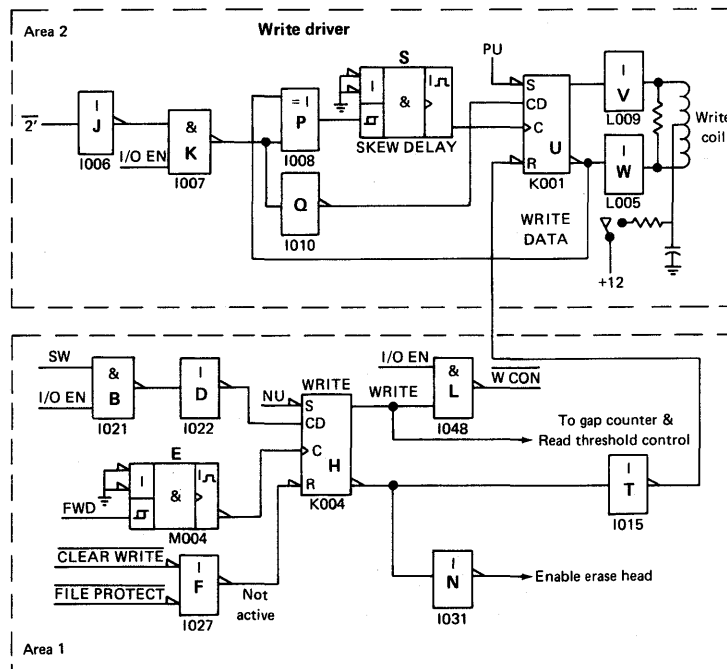

Figure 10. Simplified write logic
1. The tape reel must have the 'write' ring installed. This removes the reset condition from the WRITE FF (see block F of figure 10).
2. The tape drive must have previously been selected by the controller, which generates a control signal called I/O EN. The appropriate operator control switches are pressed to generate the signal called SW (see block B of figure 10).
3. The controller sends the signal FWD (forward) to set the WRITE FF (see block H of figure 10).
4. When the WRITE FF turns on, it enables the erase head to become active (block N of figure 10). At the same time, a reset is removed from the WRITE Data FF (see block U of figure 10).
Next data is sent to the write head circuitry. Area 2 in figure 10 represents logic for a single channel of the read head. A bit on the write driver circuitry activates the single shot skew delay, enabling the write coil to record data onto the tape.